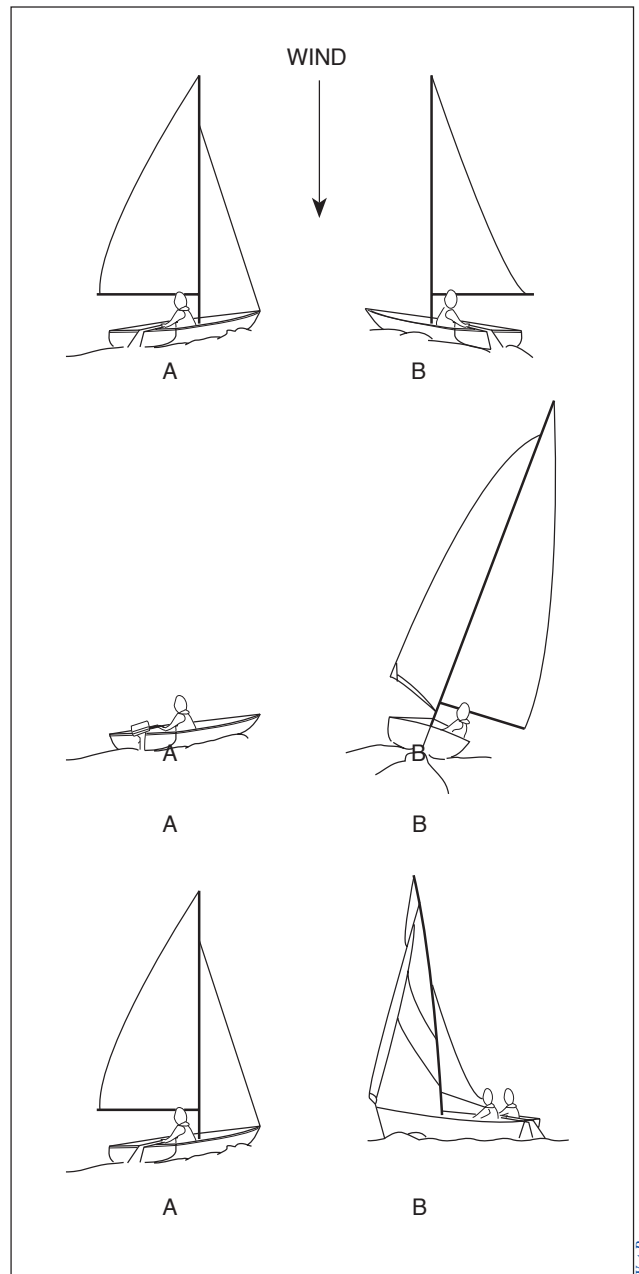

Figure 72.4 Diagram for question 30
30. State which vessel has right of way in each situation in Figure 72.4. Give reasons for your answer.